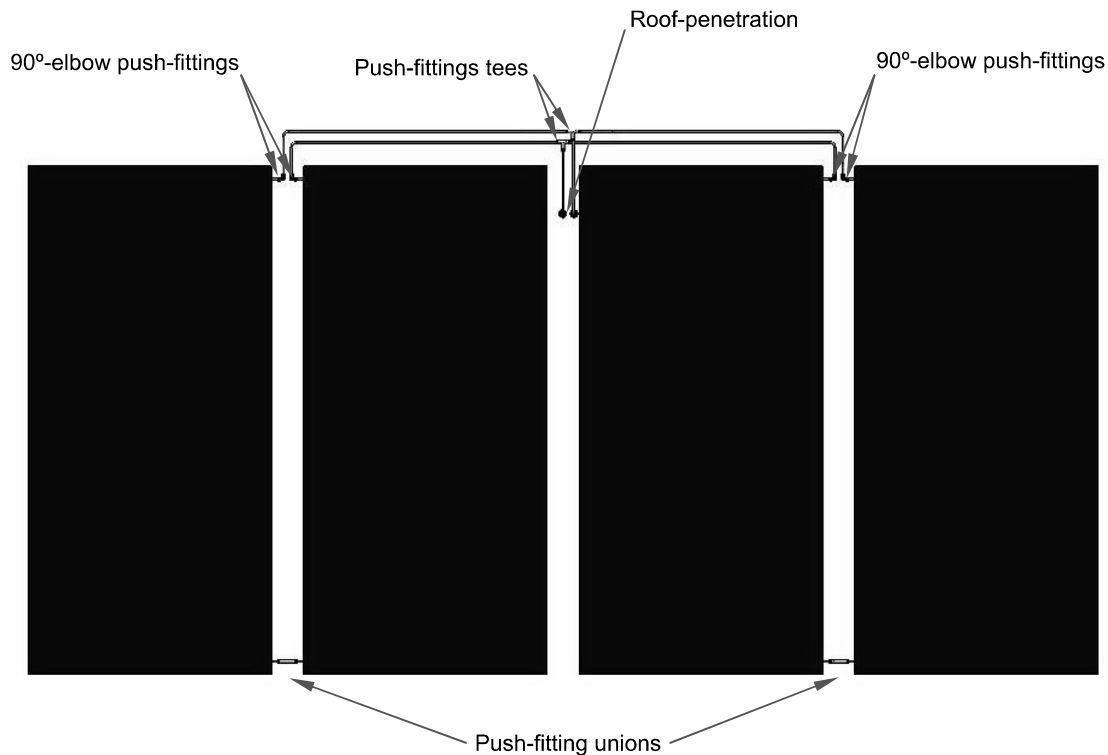

Fig. 6.5.3 – Four-collector configuration.
1. Position two collectors on either side of roof-penetration with connection tubes pointing out (Fig. 6.5.3). Temporarily use center-flashing to achieve correct spacing of middle collectors and secure them to C-channel.